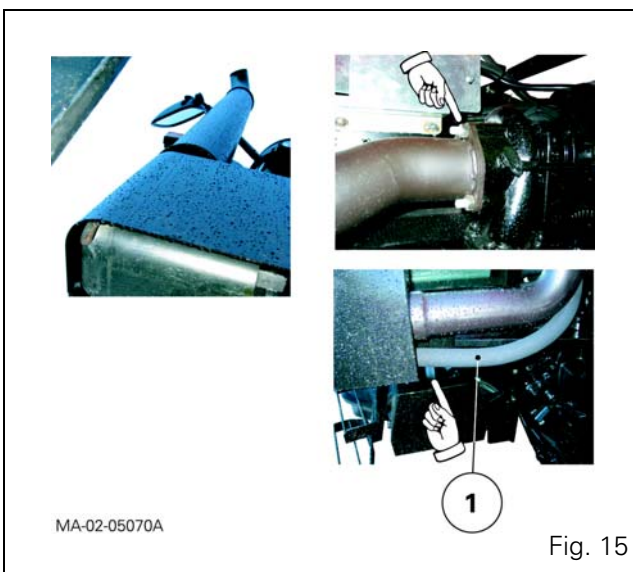

Fig. 15
- 36.** Disconnect the flexible sleeve (1) (Fig. 15) fitted to the suction port.
If necessary, remove the vertical exhaust assembly (including support) (Fig. 15).